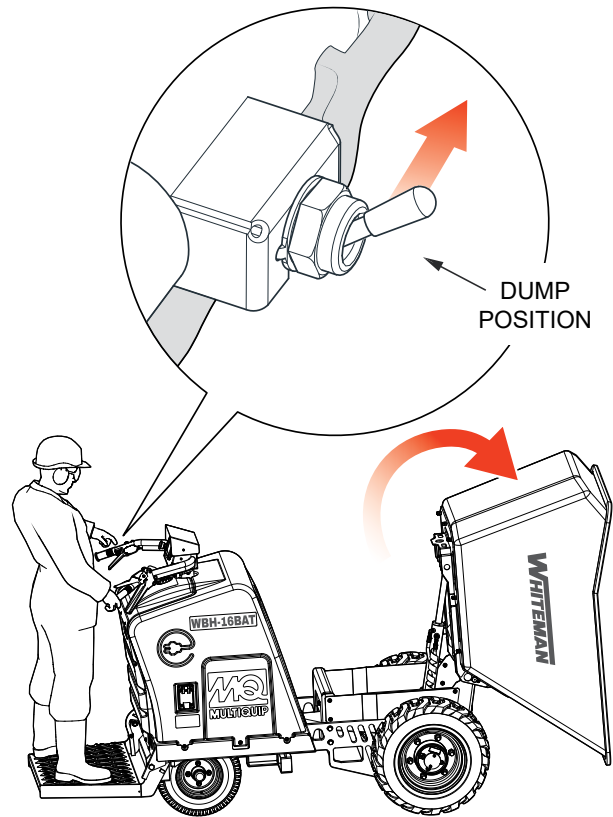

Figure 17. Vertical Tub Position
1. To place the tub in the dump (vertical) position (Figure 17), push the dump switch upward. The tub will move to the vertical position as long as switch is in the upward position.